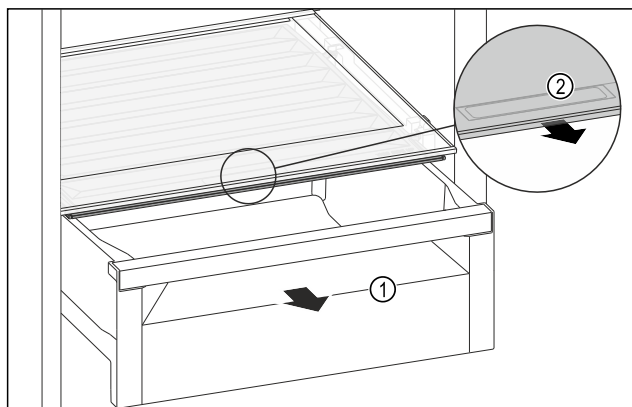

Fig. 63
- Pull out the drawer Fig. 63 (1).
- Grasp the recessed grip Fig. 63 (2) on the compartment lid and pull the compartment lid forwards at the same time.